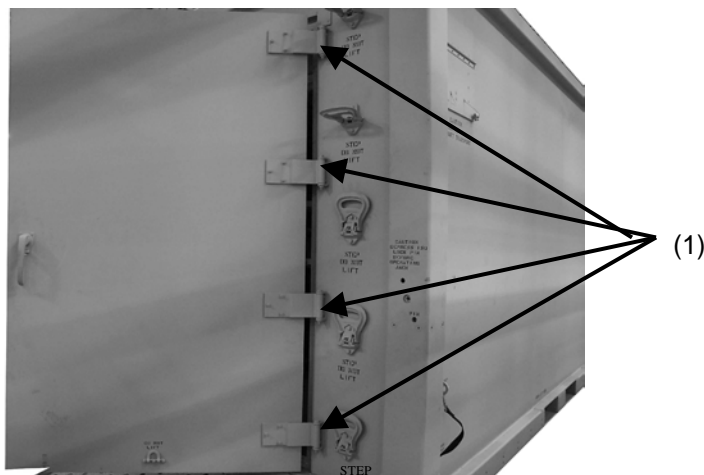

Figure 4-55. Personnel door.
Remove hinge pin, nut, and two washers from hinge butt (1) on each of four locations. Save hinge pin, nut, and two washers for reuse (Fig. 4-55).